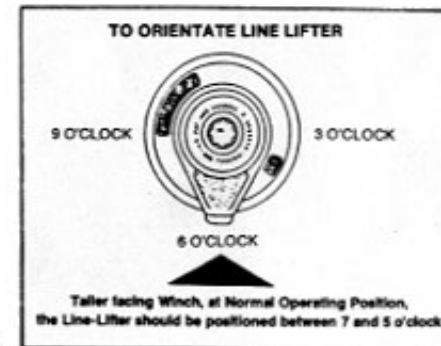

Fig. 1.
- Install the drum assy. with the line lifter in suitable sheeting position over the gearbox assy. (see fig. 1).
- Replace the retaining nut (18) and tighten firmly.